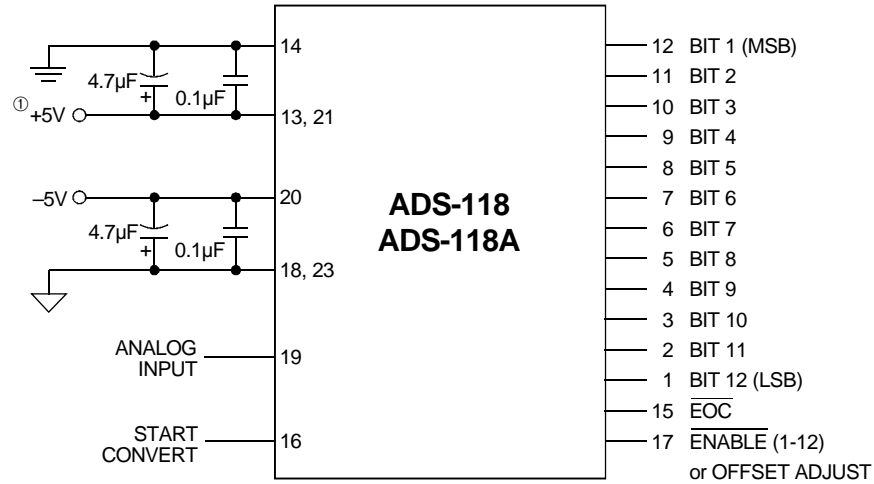

**Figure 2a. Optional ADS-118 External Gain and Offset Adjust Circuits**
- the adjustment circuitry shown in Figures 2a and 2b. When using this circuitry, or any similar offset and gain-calibration hardware, make adjustments following warmup. To avoid interaction, always adjust offset before gain.
Any offset and/or gain calibration procedures should not be implemented until devices are fully warmed up. To avoid interaction, offset must be adjusted before gain. The ranges of adjustment for the circuits in Figures 2a and 2b are guaranteed to compensate for the ADS-118's initial accuracy errors and may not be able to compensate for additional system errors.